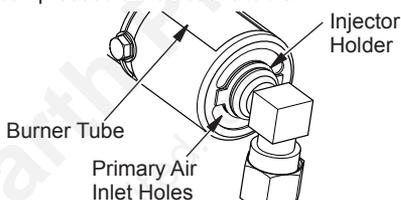

Figure 79 - Injector Holder On Outlet Burner Tube
2. Inspect burner, pilot and primary air inlet holes on injector holder for dust and dirt (see Figure 79).